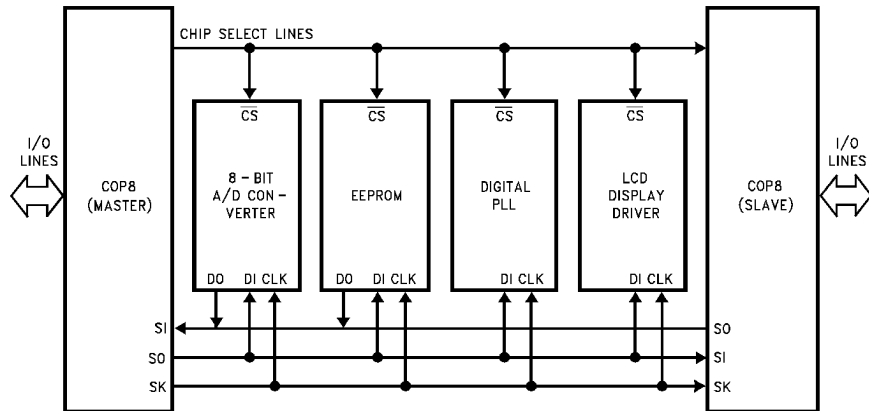

FIGURE 7. MICROWIRE/PLUS Application
Setting the BUSY bit in the PSW register causes the MICROWIRE/PLUS arrangement to start shifting the data. It gets reset when eight data bits have been shifted. The user may reset the BUSY bit by software to allow less than 8 bits to shift. The device may enter the MICROWIRE/PLUS mode either as a Master or as a Slave. Figure 7 shows how two device microcontrollers and several peripherals may be interconnected using the MICROWIRE/PLUS arrangement.
In the MICROWIRE/PLUS Master mode of operation the shift clock (SK) is generated internally by the device. The MICROWIRE/PLUS Master always initiates all data exchanges (Figure 7). The MSEL bit in the CNTRL register must be set to enable the SO and SK functions on the G Port. The SO and SK pins must also be selected as outputs by setting appropriate bits in the Port G configuration register. Table 5 summarizes the bit settings required for Master mode of operation.
The user must set the BUSY flag immediately upon entering the Slave mode. This will ensure that all data bits sent by the Master will be shifted properly. After eight clock pulses the BUSY flag will be cleared and the sequence may be repeated. (See Figure 7).